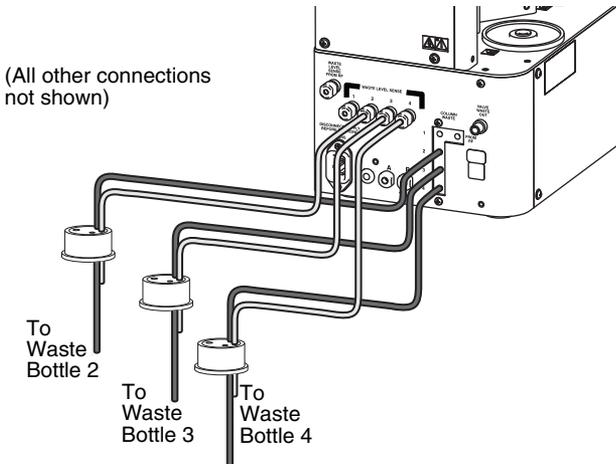

Figure 4-9 Channels 2 through 4 waste tubing connections
6. Using one of the three remaining waste line assemblies and waste caps, complete the waste connections for channel 2 as shown in Figure 4-9.
7. Using the three remaining waste line assemblies and waste bottle caps, complete the waste connections for channels 2 through 4 as shown in Figure 4-9.